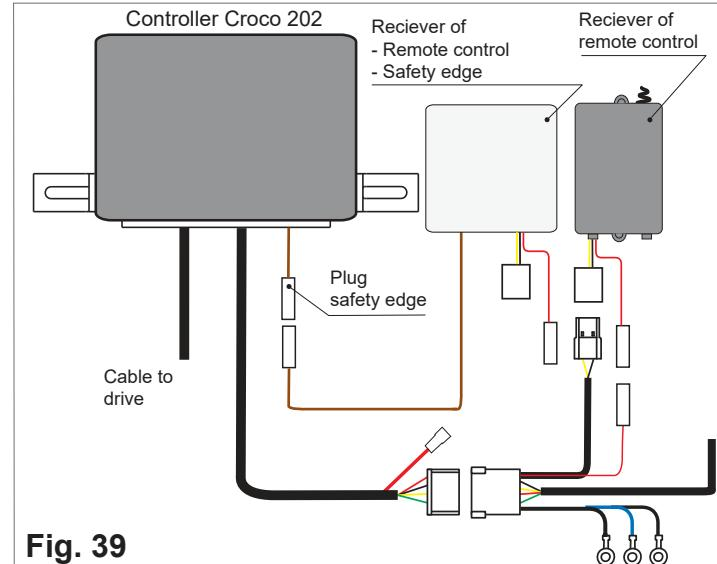

Fig. 39
**Croco 202:** Connect the corresponding receiver to the control unit as shown in Fig. 39.